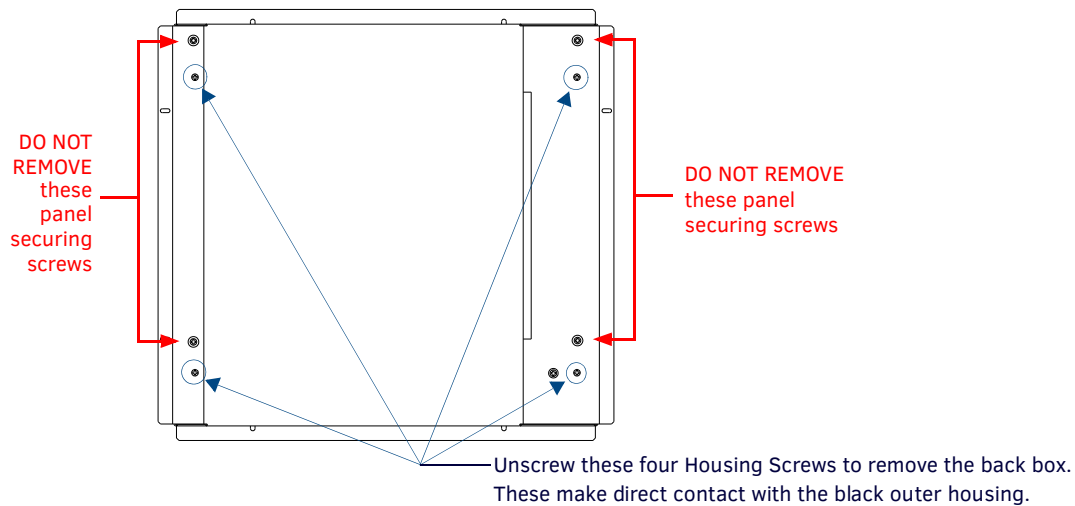

FIG. 33 Location of the attachment screws on the NXD back box
6. Remove the four pan-head Housing Screws from the rear of the NXD unit (FIG. 33). These screws secure the back box to the internal panel casing.